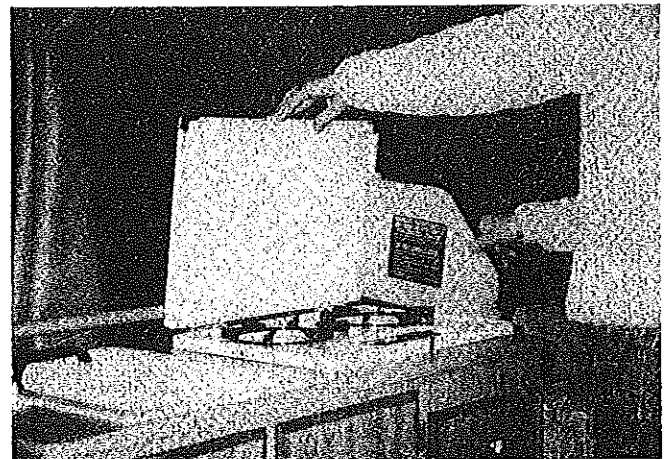

FIGURE 37
35. Unfasten the catch securing the stove cover. Raise the stove cover into position. Rotate the splash guard toward side of stove and fasten to side of cooktop with twist latch. See Figure 37.
7. Turn L.P. burners to off. Pull the stove cover down and secure for travel with the catch. See Figure 37.